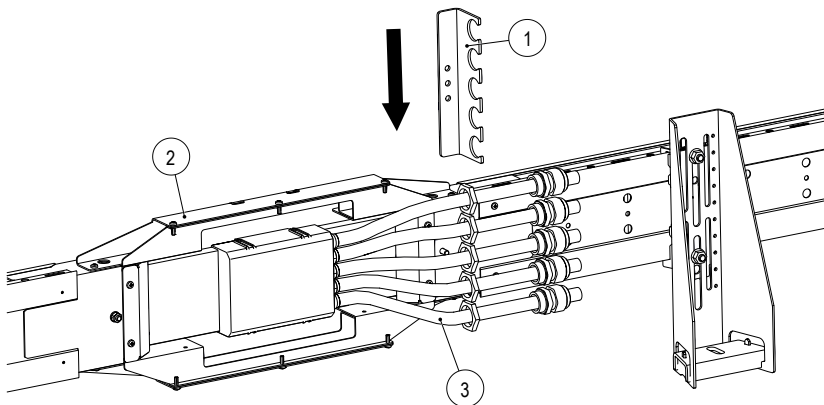

Fig. 68: Slide strain relief plate (1) behind the connecting cables
3. Loosen the lock nuts (C) from the screw connections (D) and slide both onto the connecting cables in such a way that there is still space for the strain relief plate (see Fig. 68).